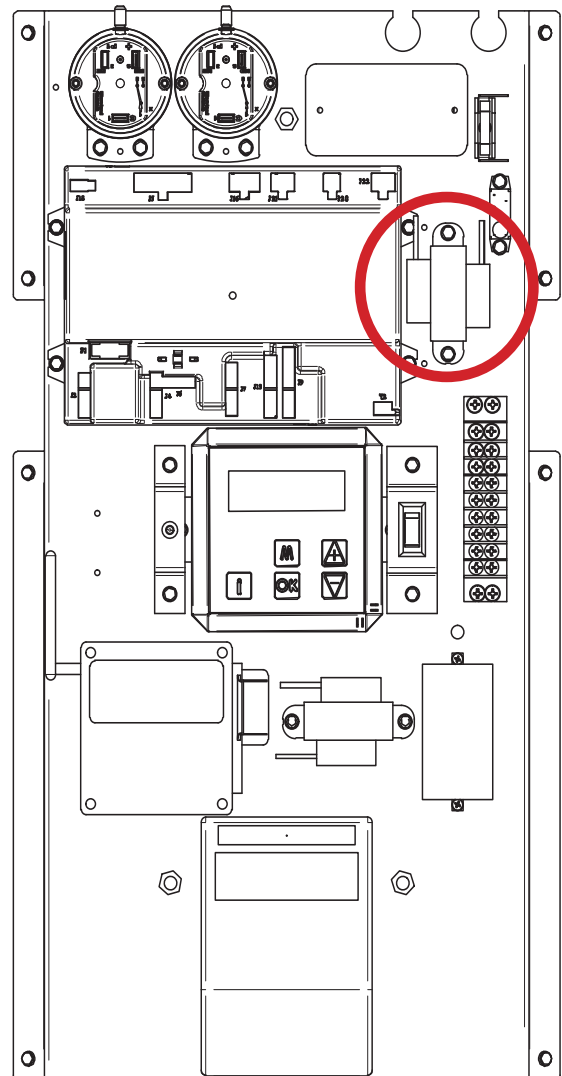

Fig. 55
4. Locate transformer on the control panel (Fig. 55).